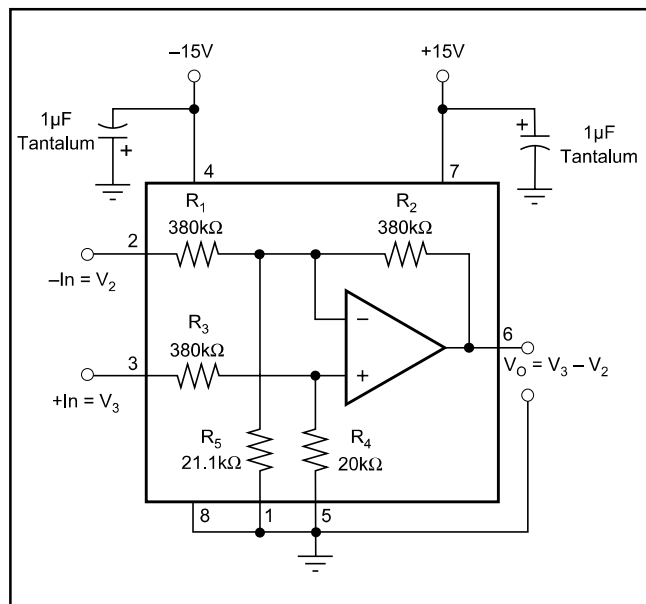

FIGURE 1. Basic Power and Signal Connections.
NOTES: (1) Connected as difference amplifier (see Figure 1). (2) Nonlinearity is the maximum peak deviation from the best-fit straight line as a percent of full-scale peak-to-peak output. (3) With zero source impedance (see discussion of common-mode rejection in Application Information section). (4) Includes effects of amplifier's input bias and offset currents. (5) Includes effects of amplifier's input current noise and thermal noise contribution of resistor network.
Figure 1 shows the basic connections required for operation.